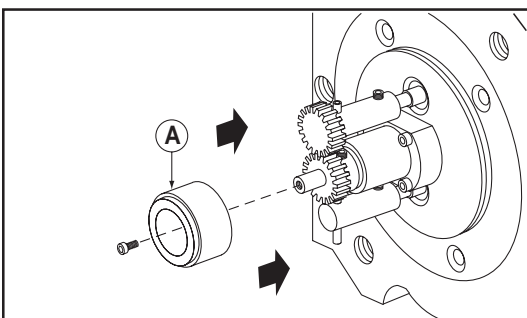

Fig. 3-16 Replacing Magnet Assembly
Step 7: Reinstall magnet holder assembly with allen head screw using Loctite 222 to the centering shaft threads. Tighten flat head screw to 15 in-oz. (Fig. 3-16)